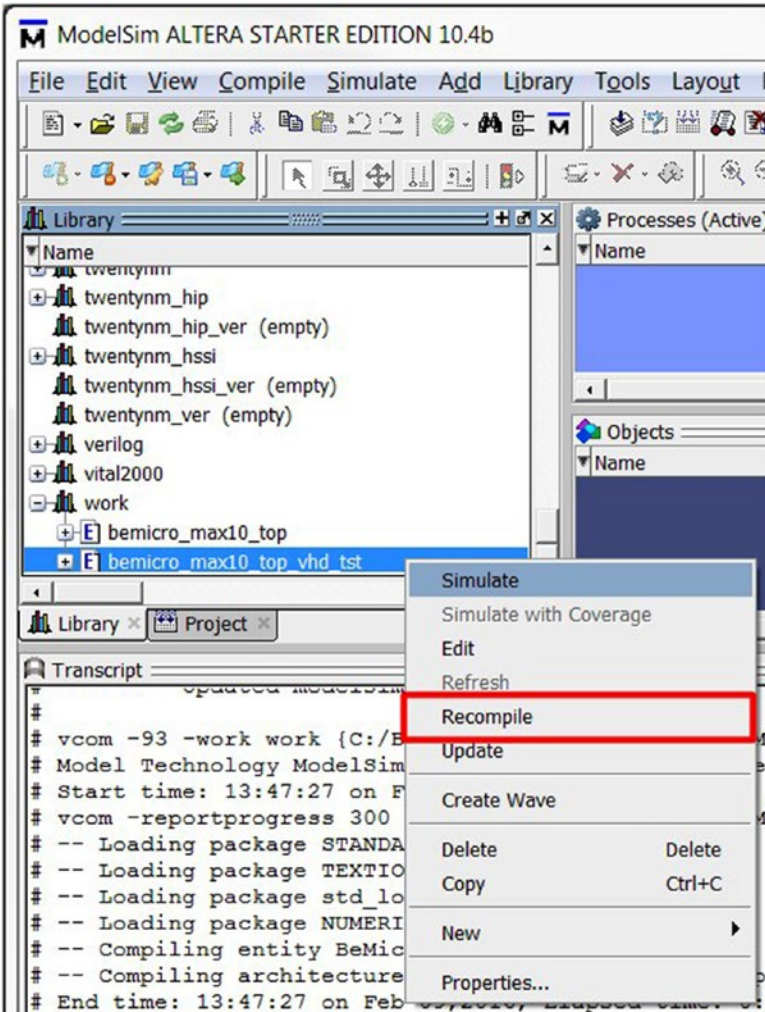

Figure 4-42. Recompile `bemicro_max10_top_vhd_tst`
- 8. Right-click the `bemicro_max10_top_vhd_tst`, and click **Recompile** (Figure 4-42). This will recompile the test bench again. Once completed you should see Figure 4-36 in the Transcript log.